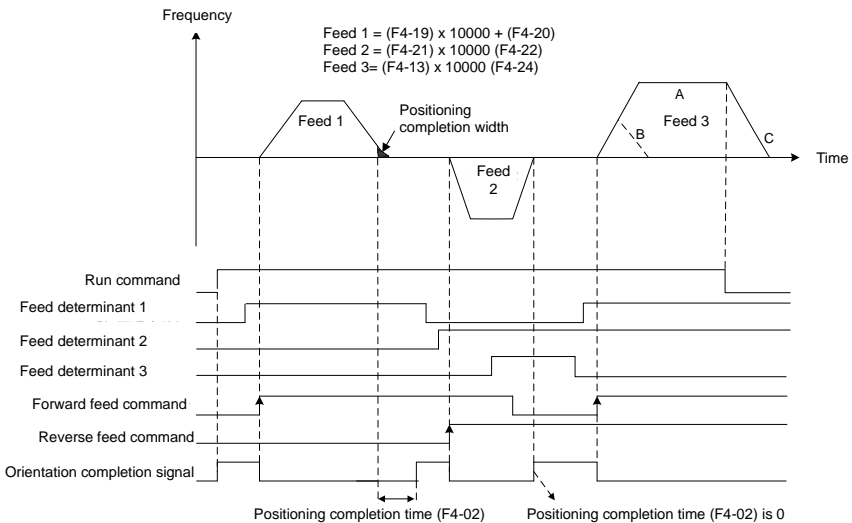

Fig. 6-58
When performing simple feed, please input encoder signal via expansion card and set speed feedback encoder to "encoder 2" by parameter d6-00. Simple feed control process is as shown in Fig. 6-58:
then stopped by deceleration, as shown by curve B in Fig. 6-58.
- In case stop command is given during simple feed, feed control will be ceased and the machine will be stopped according to the set deceleration time as shown on curve C in Fig. 6-58.